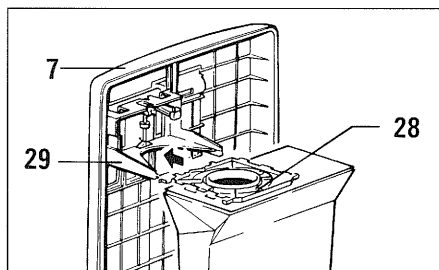

Figure 7
### Changing the Dust Bag - Figure 7
|                                                                      | 2. Bag not inserted properly                                                            | 2. Re-insert bag with cover release flap (5) up, until firmly latched in bag holder (see pg. 8, figure 7).                                  |